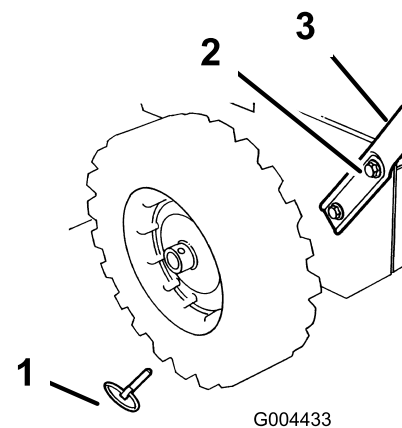

Figure 3
2. Remove the axle pins from both wheels and slide the wheels outward on the axle approximately 1 inch (3 cm) (Figure 3).
5. Align the holes in the left side of the handle with the holes in the left side plate, and secure the handle with 2 cap screws and Belleville washers until they are finger tight (Figure 3).